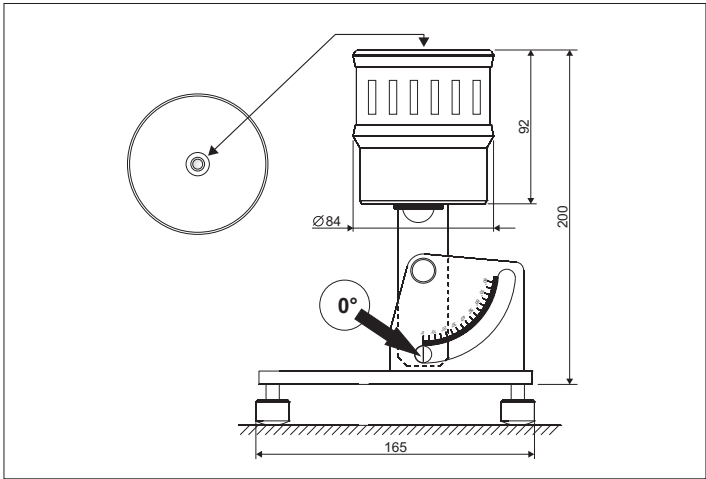

Fig. 3: levelling of the instruments.
- Before orienting the Sunshine Duration Sensor to its final position, place it vertically and verify that the mast or the support base are levelled with the spirit level placed on the upper side of the instrument (Fig. 3).